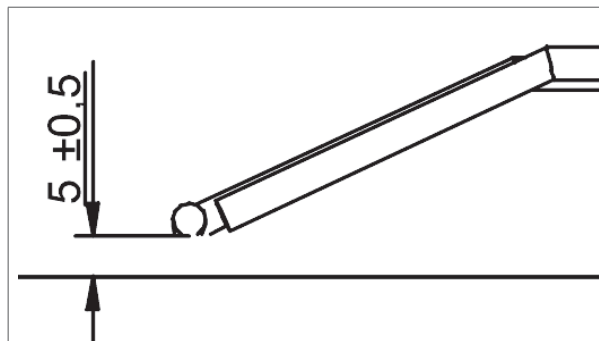

Figure 24 - Distance between the electrode and the burner
- a. The distance between the electrode and the burner should be $5.0 (\pm 0.5)$ mm (figure 24).